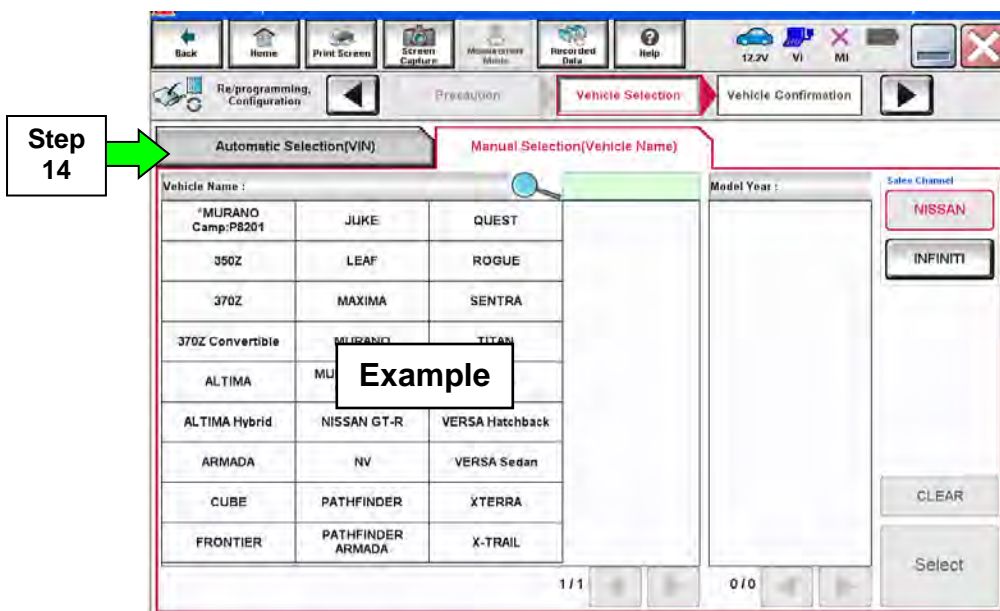

Figure 4
14. If the screen in Figure 4 displays, select **Automatic Selection(VIN)**.
- If the screen in Figure 4 does not display, skip to step 15 on the next page.